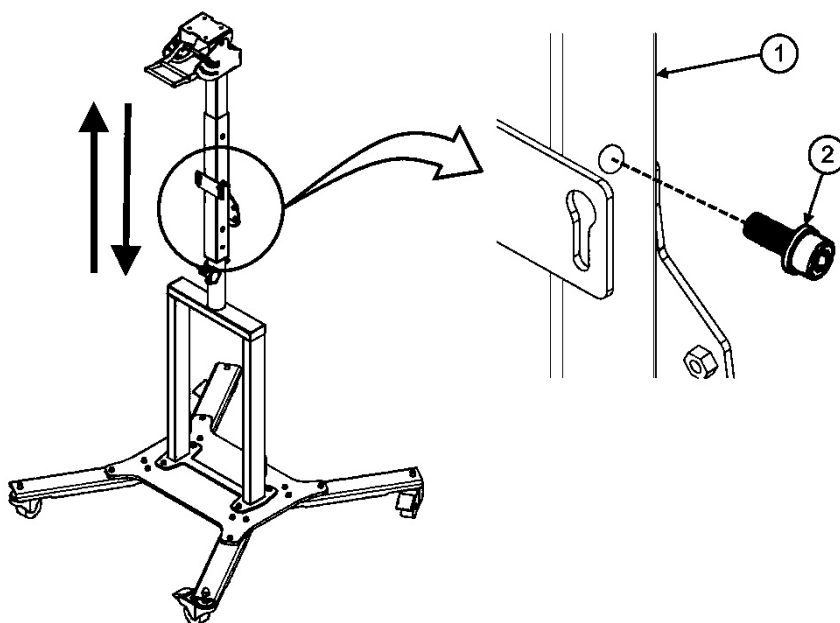

Figure 8 Angle Shelter Adjustment
6. Remove the four pre-installed screws (Figure 8, 5) and affix the lower cross bar (4) to the vertical base (6) using the four screws (5).
7. Remove the four pre-installed screws (2) and affix the upper cross bar (3) to the angle shelter adjustment pole (1) using the four screws (2).
4. Moving the **Dispenser** on Floor Stand: Unlock the brakes of the four (4) swivel casters (refer to Figure 8). The **Dispenser** can be wheeled to a new location.